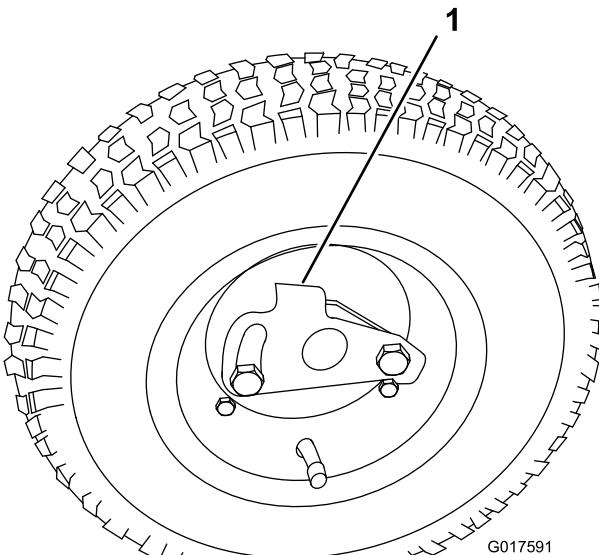

Figure 10
2. Press the wheel locking clip toward the center of the wheel onto the wheel shaft (Figure 10).